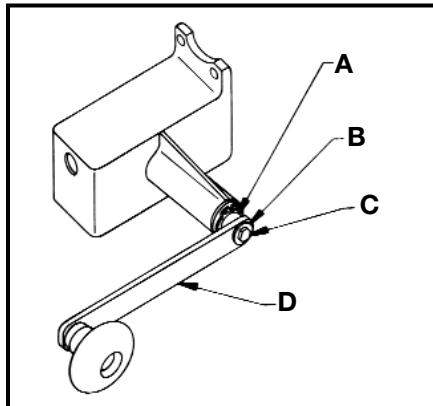

Fig. 2
Remove bolt and washer (B and C) Fig. 2. Place crank handle (D) onto crank shaft (A) with wooden knob facing outward and "D"-shaped hole in handle aligned with flat on shaft. Place bolt (C) through washer (B) and thread into shaft (A). Tighten securely.